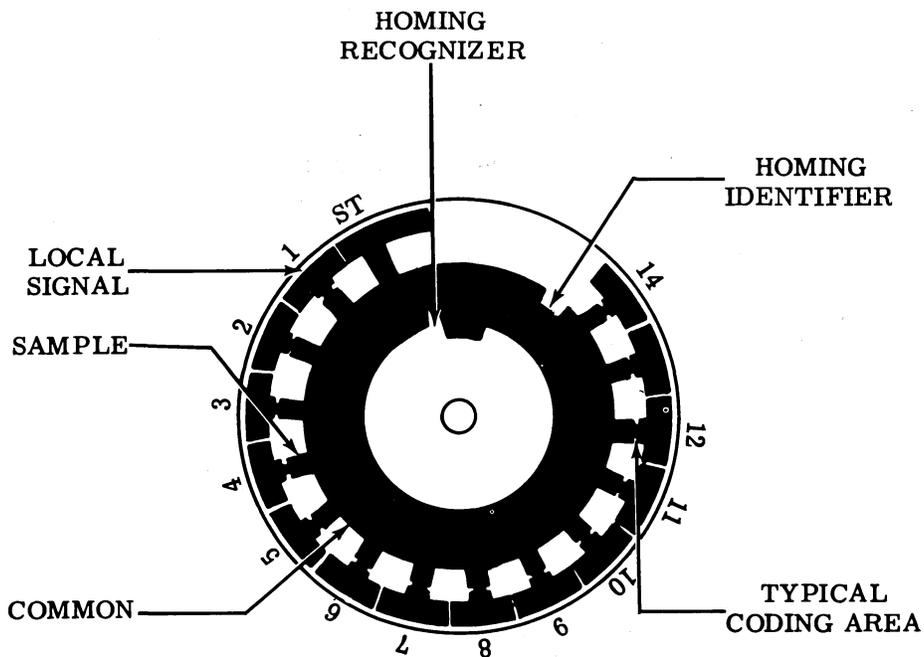

Figure 6 - Discrete Calling Generator Coding Disc (TP199580)
5.03 Prepare the TP199580 coding disc by coding bits 1 thru 14 in the desired sequence (Figure 6).
5.04 A marking bit identifies a bit which has continuity from the local signal to the common (Figure 6). Conversely, a spacing bit
5.06 To make a bit spacing, remove the etched circuit board material in the corresponding code area (Figure 6) by scraping it with the edge of a sharp screwdriver or a pocket knife.